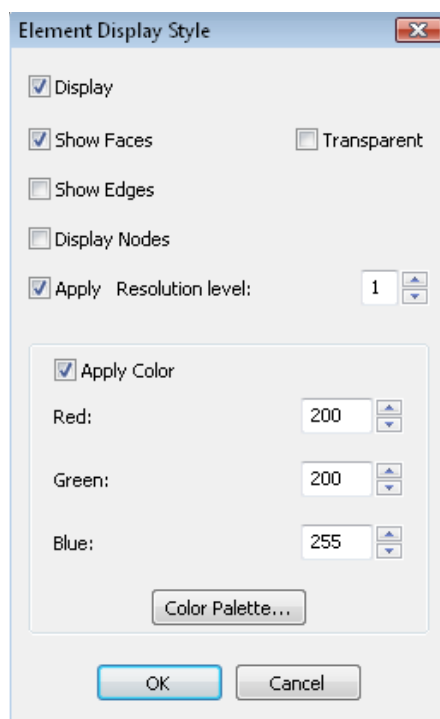

Figure 9.34: Element Display Style Window.
- Again right-click on the mesh while holding down the *shift-key* and select: **Selected Elements** → **Display Style** to view a pop-up window shown in Figure 9.34.